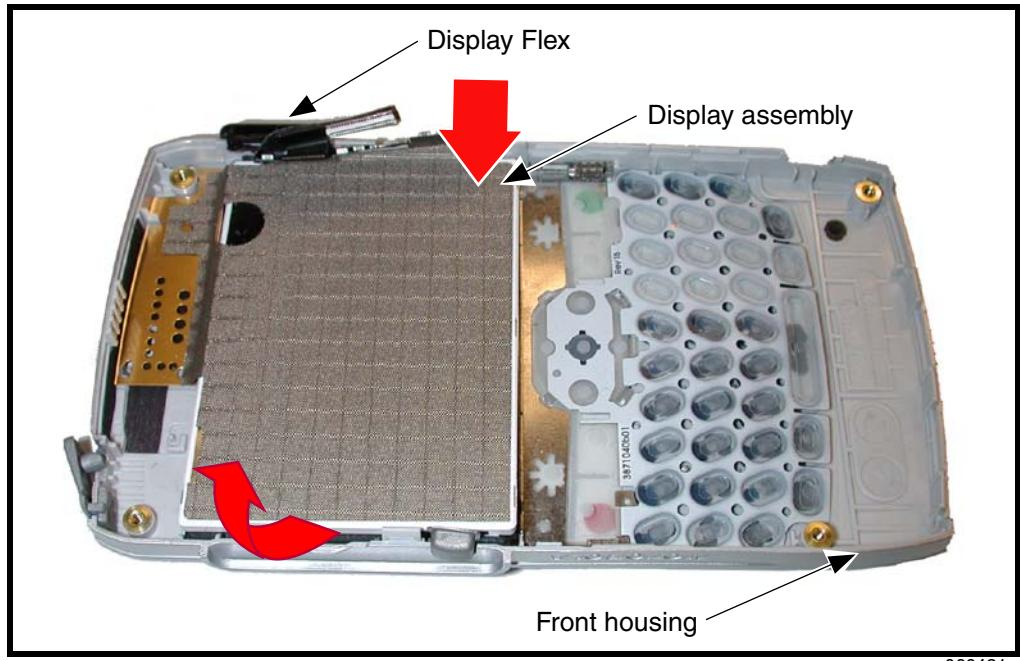

Figure 25. Removing the Display Assembly
3. Apply a small amount of force to the lower right side of the display assembly and lift the left side of the display out of the front housing (see Figure 25).